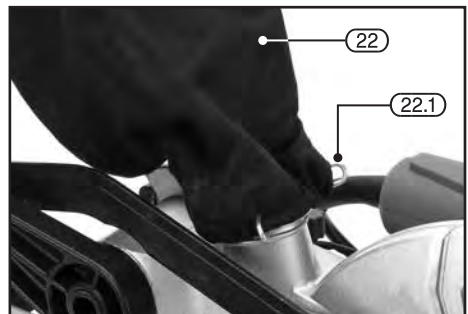

FIG.8
### 8.9 DUST EXTRACTION – FIGS.8 – 9
**Stock No.83677 (Fig.8):**
- Pinch the spring clip (22.1) open and slide bag (22) onto extraction port, release clip slowly.